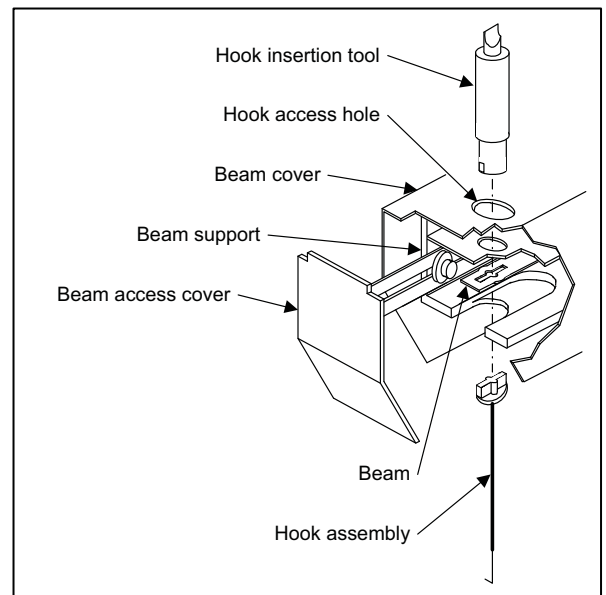

Figure 3-1. Installing Hook on B10 and B100 Beams
- 2 Place the slotted end of the hook insertion tool through the hook access hole in the beam housing (figure 3-1) until it rests on top of the beam.